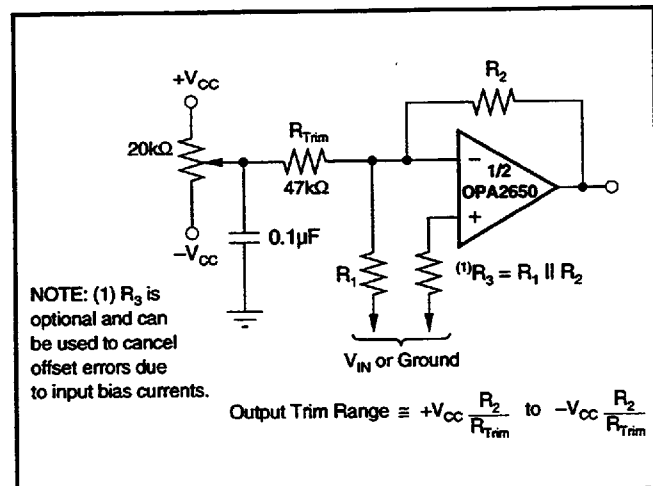

FIGURE 2. Offset Voltage Trim.
If additional offset adjustment is needed, the circuit in Figure 2 can be used without degrading offset drift with temperature. Avoid external adjustment whenever possible since extraneous noise, such as power supply noise, can be inadvertently coupled into the amplifier's inverting input terminal. Remember that additional offset errors can be created by the amplifier's input bias currents. Whenever possible, match the impedance seen by both inputs as is shown with  $R_3$ . This will reduce the output offset voltage caused by the amplifier's input offset current.
8. CORNER LEADS (1, 4, 5, AND 8) MAY BE CONFIGURED AS SHOWN IN FIGURE 2.